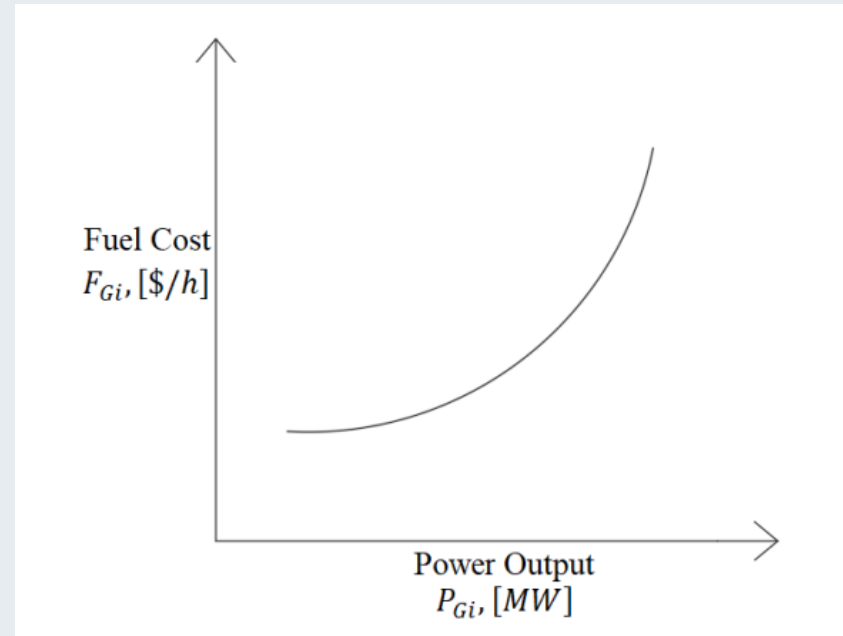

Figure 3. Cost curve.
- Plotting the Curves: the x-axis, represent the steam output (in kCal) and the y-axis, represent the cost (in Rs.). Then, the total cost curve: average cost curve, and marginal cost curve is presented in Fig.3